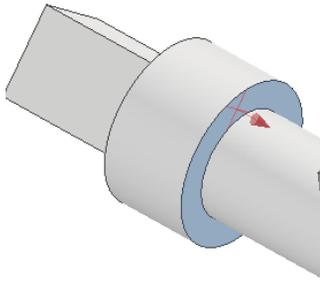

*Figure P1-35 Axes to be selected*
3. Choose the **Mate** button from the **Type** area of the **Assembly** tab in this dialog box. Next, select the central axis of the hole of Jack Pin and central axis of Jack Screw, as shown in Figure P1-35.